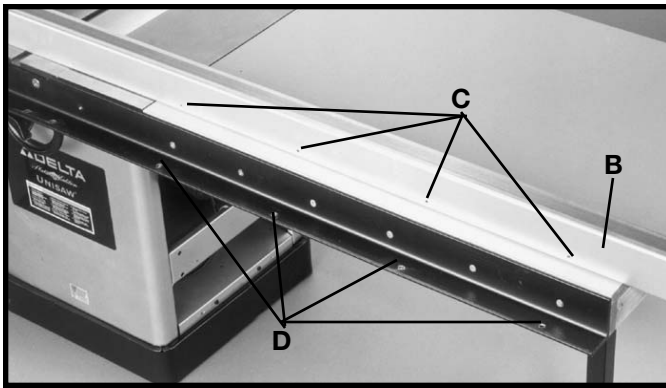

Fig. 97
1. Lay the guide tube (B) Fig. 97, on the saw table as shown, and line up the threaded holes (C) on bottom of guide tube (B) with the through holes (D) on the front rail (A).